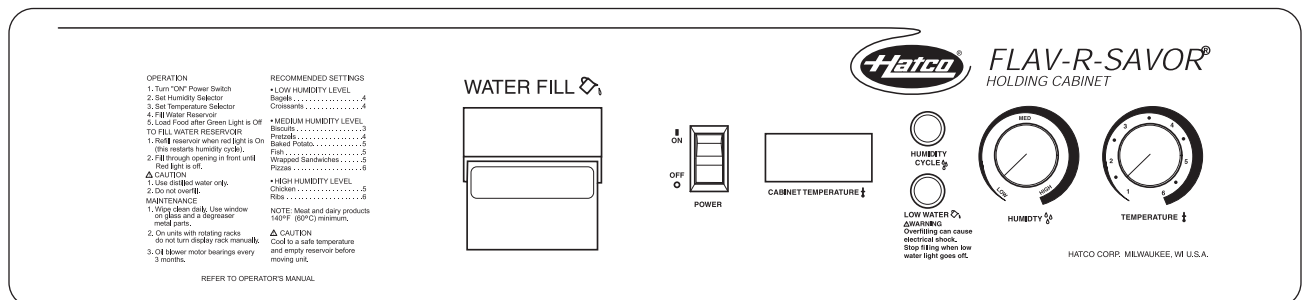

Figure 7. Control Panel
2. Turn the Power Switch on the control panel to the ON position. The Humidity Cycle and Low Water indicators will light up at this time. (See Figure 7.)